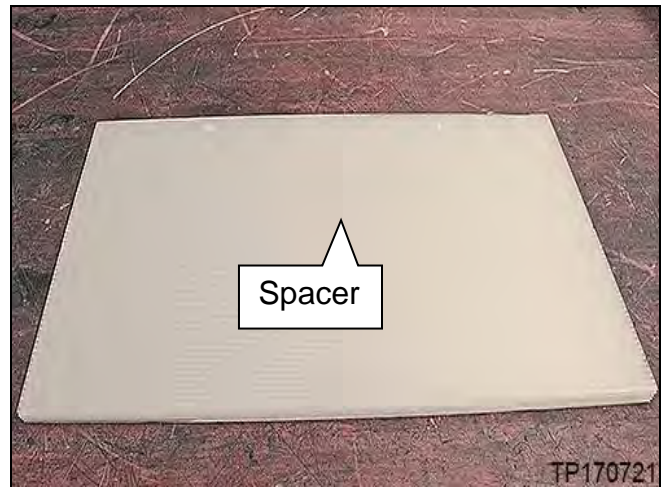
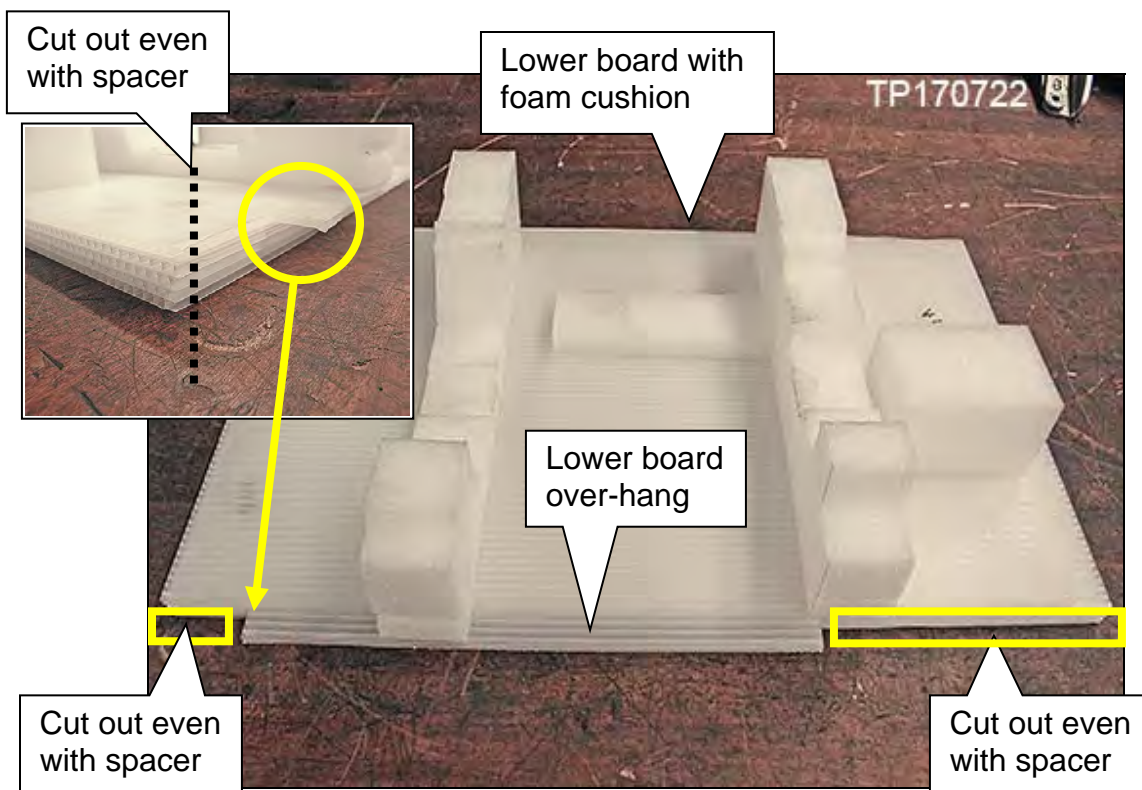

Figure 6N
Figure 7N
6. Take the lower board with foam cushion (lower board) out of the shipping box (Shown in Figure 7N).
IMPORTANT: Step 7 is for kits that have a separate spacer (Figure 6N). In later kits this spacer will be part of the Lower board and step 7 will not be used.
7. Take the spacer (Figure 6N) out of the shipping box and place on the work bench where the sub-assembly will be installed, and then place the lower board on top of the spacer as shown in Figure 7N.